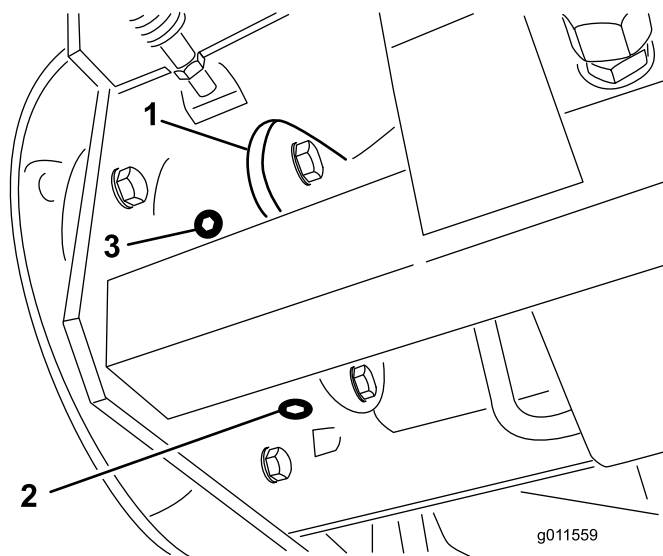

Figure 64
6. Place a drain pan under the brake housing on the other side of the wheel (Figure 64).